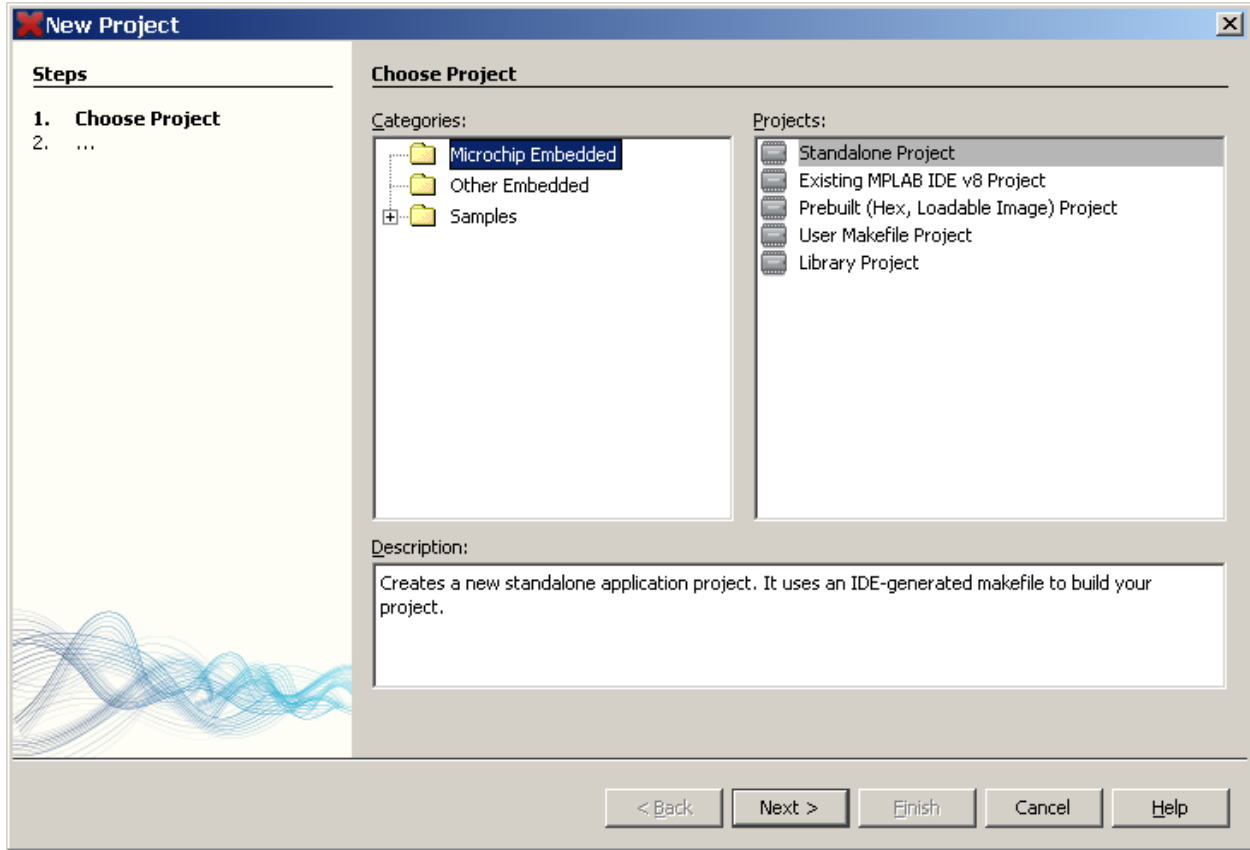

Figure 4. Step 1 of creating a new MPLAB X project
- D. After viewing the appropriate tutorial(s), start the process of creating a new MPLAB X project by clicking of the “Create a New Project” link in the *Drive In* box shown on the MPLAB X Start Page. A new window will be launched that walks you through the process described in the *New Project* minute video. Appropriate step 1 selections for Project 0 are shown in Figure 4. A standalone project package all source files into a single project. The selections shown in Figure 4 are the MPLAB X 1.80 default selections.